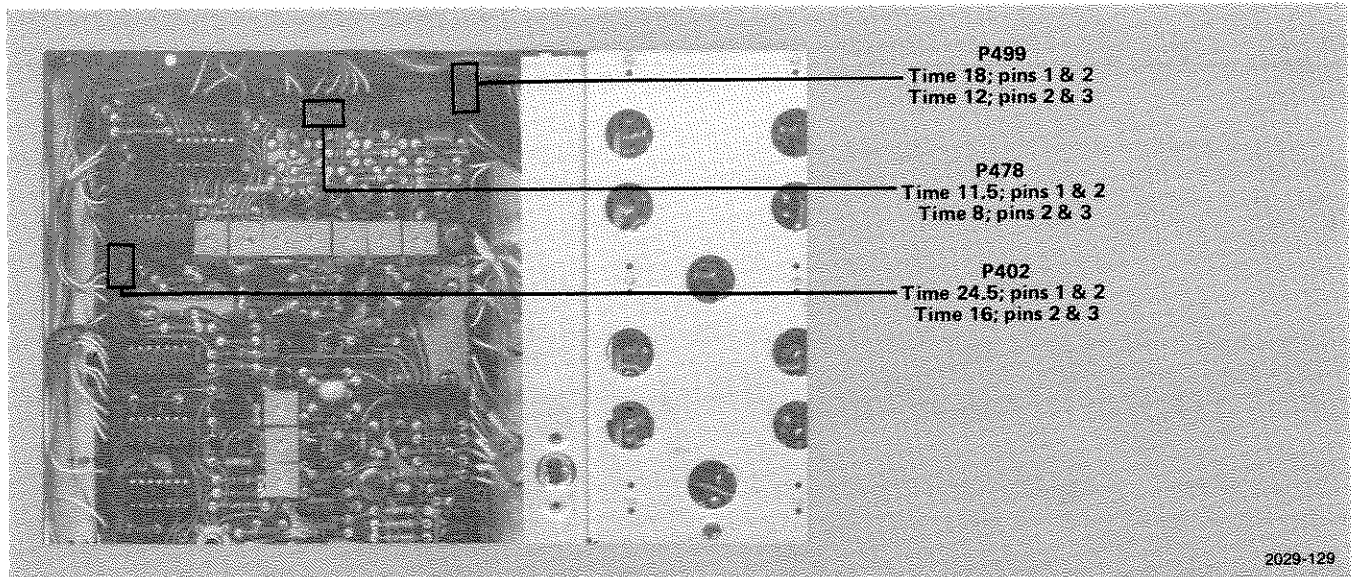

Fig. 1-27. 149A Subcarrier and Sync Out circuit board location of Modulated Pedestal selector plugs.
Proceed as follows: (1) Change the connector on pins 1 and 2 of P402 (see Fig. 1-27) to pins 2 and 3; (2) Change the connector on pins 1 and 2 of P478 to pins 2 and 3; and (3) Change the connector on pins 1 and 2 of P499 to pins 2 and 3.
value of C345, see Fig. 1-27. If less delay is desired, C345 can be replaced with a lower value capacitor with the same voltage rating. A minimum value of about 15 μ F should be retained in the circuit to avoid relay chatter in the bypass mode, and to avoid switching on a momentary loss of sync.